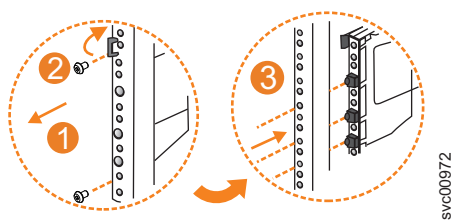

Figure 112. Remove the rail assembly from the front frame bracket
1. Remove the two screws that attach the outer rail section to the front bracket assembly, as shown in Figure 112.
2. Remove the rail section by pulling it away from the front bracket, as shown in Figure 112.